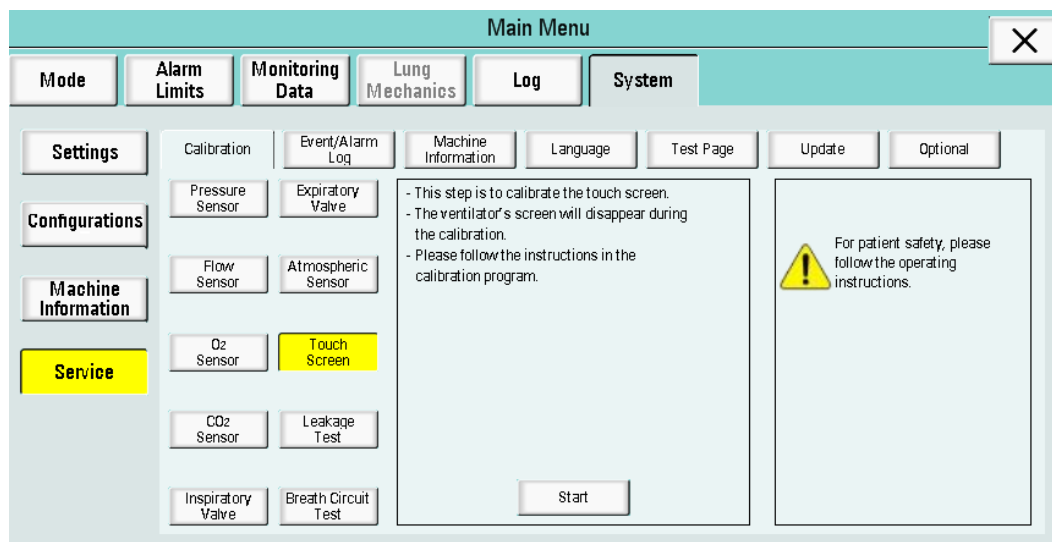

Figure 6-71
(8) Touch Screen Calibration: Click “Touch screen” to enter the calibration interface. A message is displayed: “This step is to calibrate the touch screen. The ventilator’s screen will disappear during the calibration. Please follow the instruction in the calibration program.” as shown in Figure 6-71.